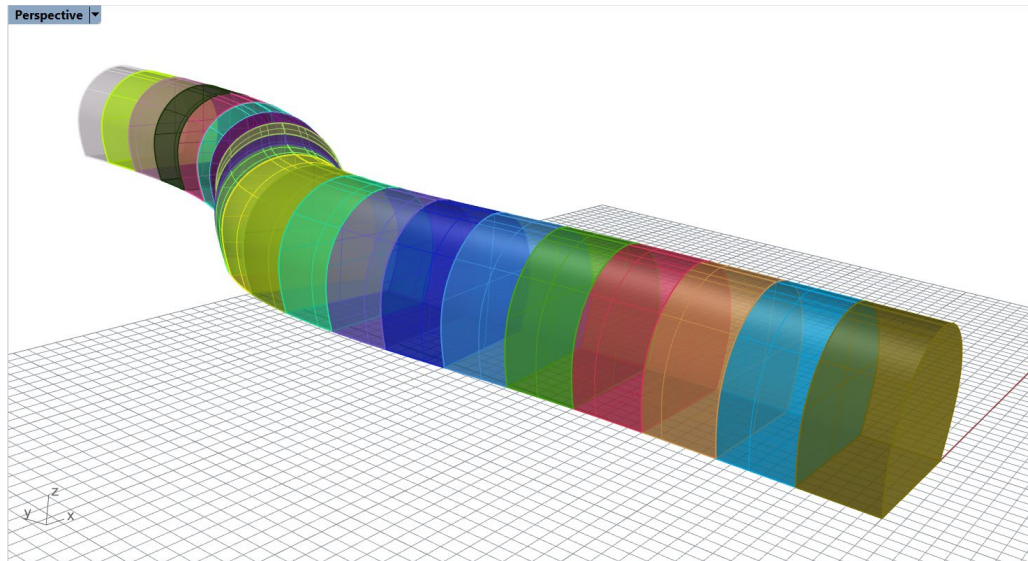

Figure 56: Watertight polysurfaces (solids) representing each excavation stage of the tunnel.
16. Colorize all stages with *Griddle*'s **_ColorizeObjects** command (Figure 56).